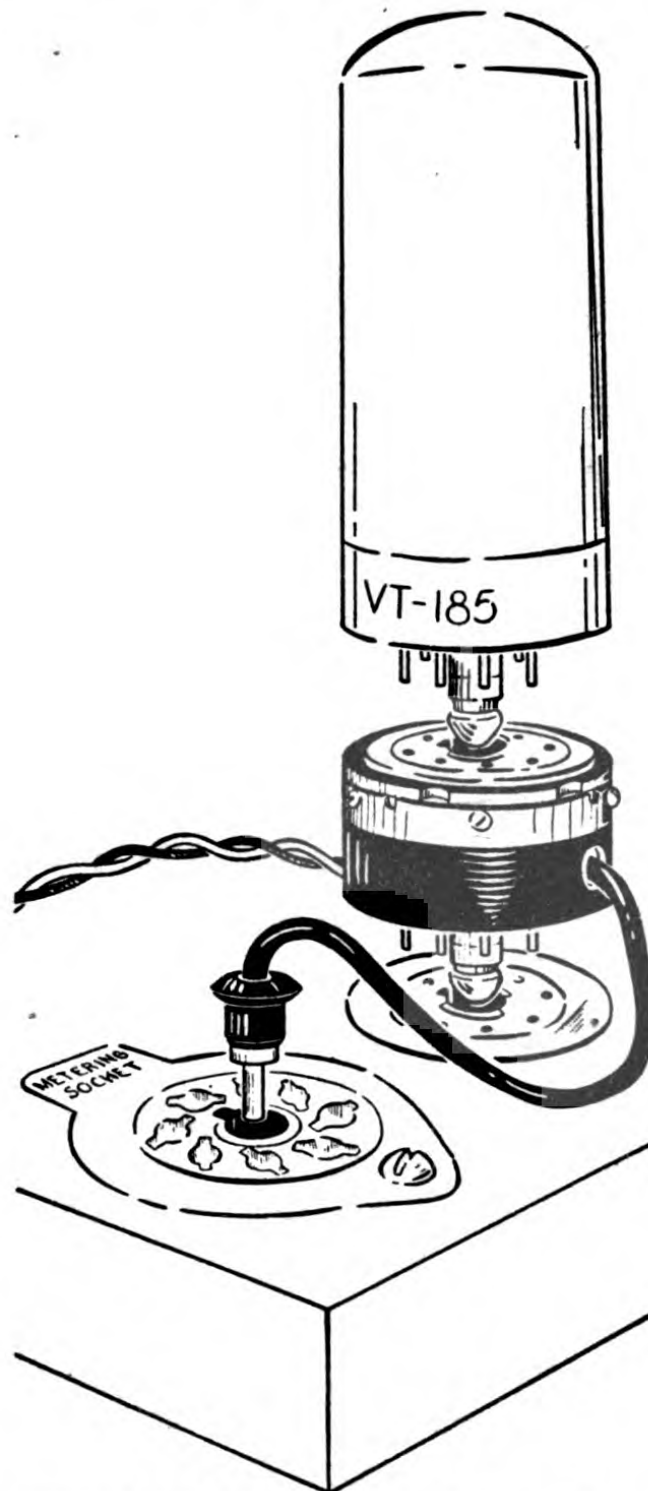

FIG. 6—ADAPTERS M-394, M-399, Adapter Plug—METHOD OF INSERTING IN RECEIVER POWER-AMPLIFIER-TUBE SOCKET
(4) Set switches SW_{10} and SW_{11} to OFF, and turn the panel meter switch to CHECK.
(5) Plug in Handset TS-13-(*), or a headset and microphone.
(6) Put the set in operation by turning the VOLUME control full ON (to the right).
(7) Throw the adapter switch to ALIGN, and note the panel meter reading. Turn the VOLUME control all the way back (to the left) from full ON, and note the change in the meter reading. If the change is more than one division, replace Tube VT-185 that is in the adapter socket, Fig. 6, with another one [Receiver-Transmitter BC-620-(*) has four VT-185's] until one is found that is satisfactory. (This checks the VT-185 for grid current, and it is essential for the alignment procedure that a tube with little or no grid current be used in the adapter socket. Normal tubes will satisfy this condition, but one that produces a change of several divisions in the meter reading has abnormal grid current, and must be replaced.) The VT-185 that is selected should produce a meter reading between 1.5 and 2.5.
(8) Turn the VOLUME control full ON (to the right) again. Note the meter reading with the adapter metering plug held away from the set. Then ground the metering plug to the chassis, and if the meter reading does not increase at least five divisions, Tube VT-185 and/or Battery BA-40 may be weak. Replace either or both as necessary.